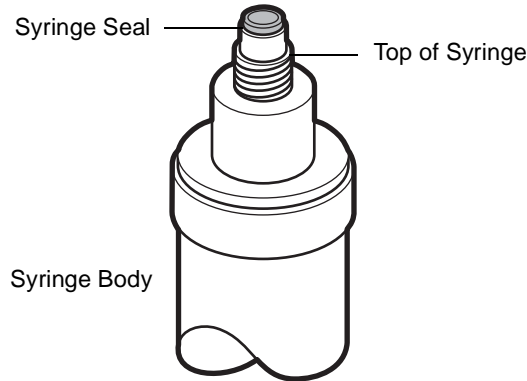

Figure 4-16 Syringe Seal
7. Screw the top of the new syringe *clockwise* into the manifold, finger tightening it (Figure 4-16). Then turn it another 1/8- to-1/4 turn.